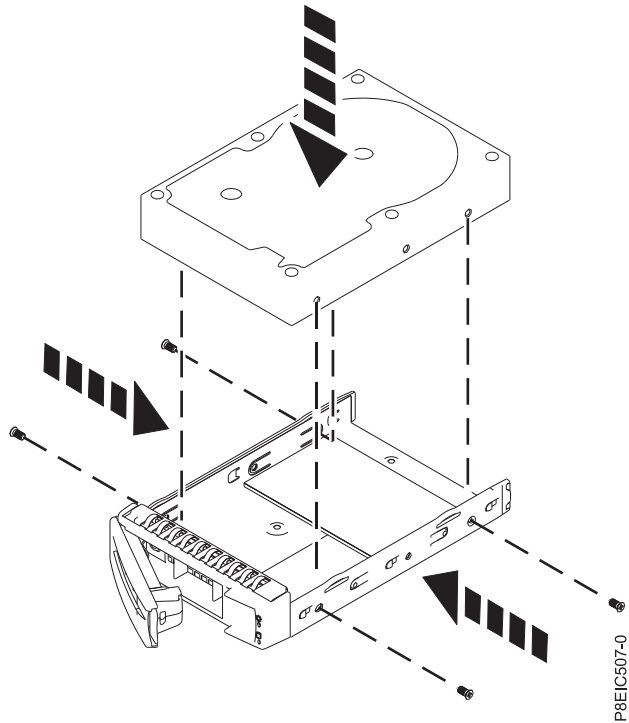

Figure 56. Mounting the 3.5 inch drive in the tray
- A 3.5 inch drive fills the tray, as shown in Figure 56. Fasten the drive to the sides of the tray with four screws (2 on each side).